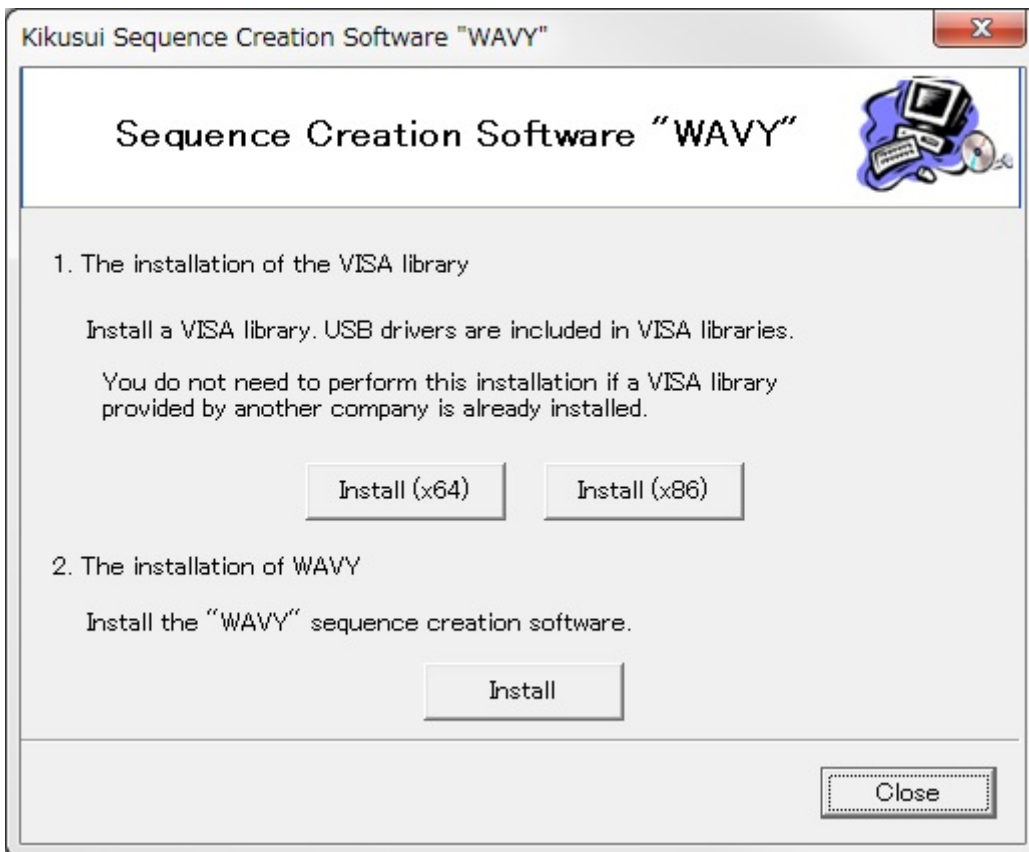

Fig. 2-1 Setup Start Screen
- (1) Insert the provided CD-ROM into the CD-ROM drive of the personal computer.
- (2) The Setup Start screen, shown in Fig 2-1, should appear automatically after a few moments. If it does not appear, run the "AutoRun.exe" file on the CD-ROM.